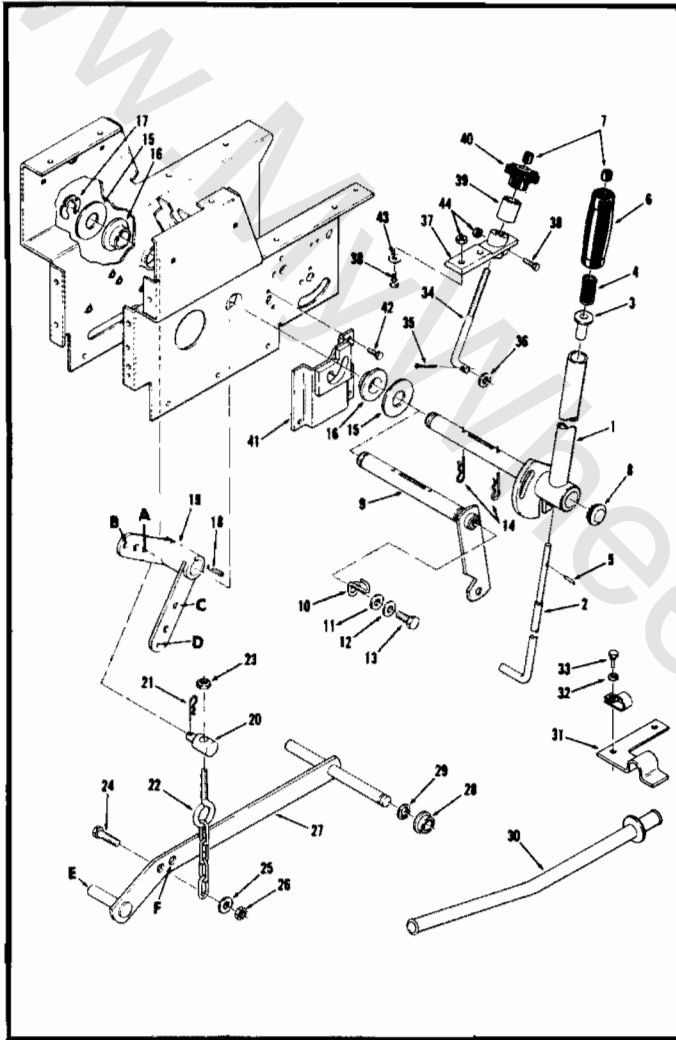
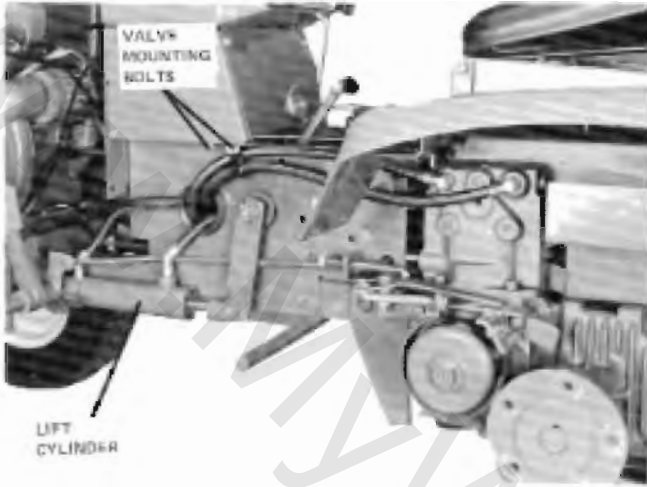

Fig. 7-1 C-Series Lift Linkage
Fig. 7-2 C-Series Hydraulic Lift System
The lift bellcrank, No. 19 in Fig. 7-1, is actuated by the lift lever No. 1, or on C-141, C-161 Automatic models by a hydraulic cylinder. The lift linkage, on certain attachments, connects directly to the bellcrank. Other attachments connect their lift linkage to the lift bar No. 27. Use the following chart for correct linkage locations:
Refer to Fig. 7-1 during the following procedure.
Refer to Fig. 7-1 and Fig. 7-2 during the following procedure.
1. Remove left side panel exposing cylinder and four hydraulic hose connections. See Fig. 7-2. Mark two rear hoses for identification during reassembly.
- Remove two mounting bolts holding valve bracket to hoodstand. See Fig. 7-2.
- Remove ammeter mounting panel and disconnect two (2) connections from ammeter.
- Remove two mounting bolts holding valve bracket to frame. See Fig. 7-2.